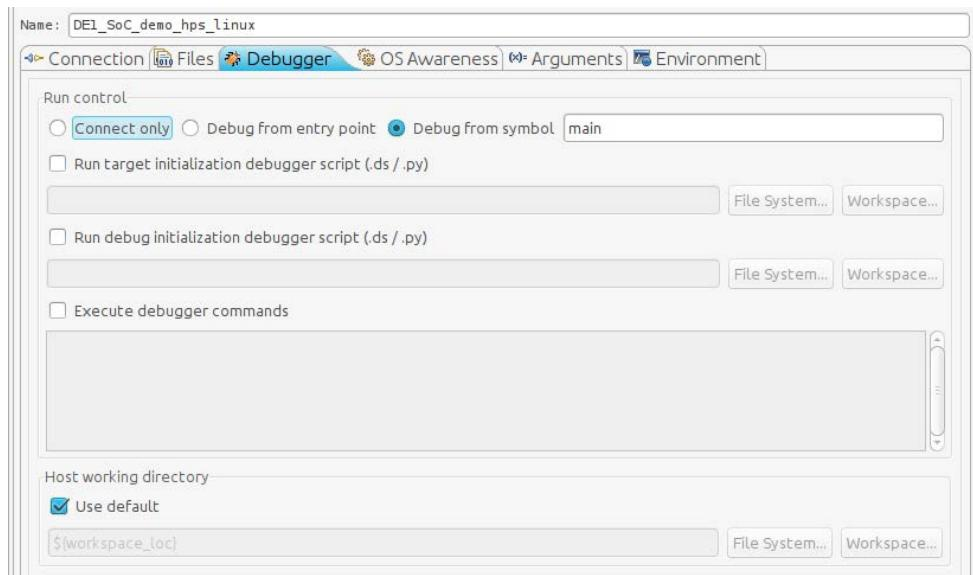

Figure 13-16. Debug Configuration "Debugger" Tab
81. Under the "Debugger" tab, make sure that "Debug from symbol" is selected and that "main" is the name of the symbol, as shown in Figure 13-16.